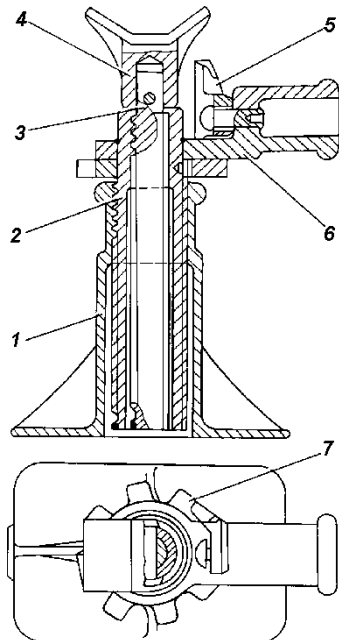

Fig. 70. Jack:
**The jack** (Fig. 70) is designed to jack up the automobile wheels for maintenance. The jack load-lifting capacity is 2 t. The maximum height of lifting is 240 mm.